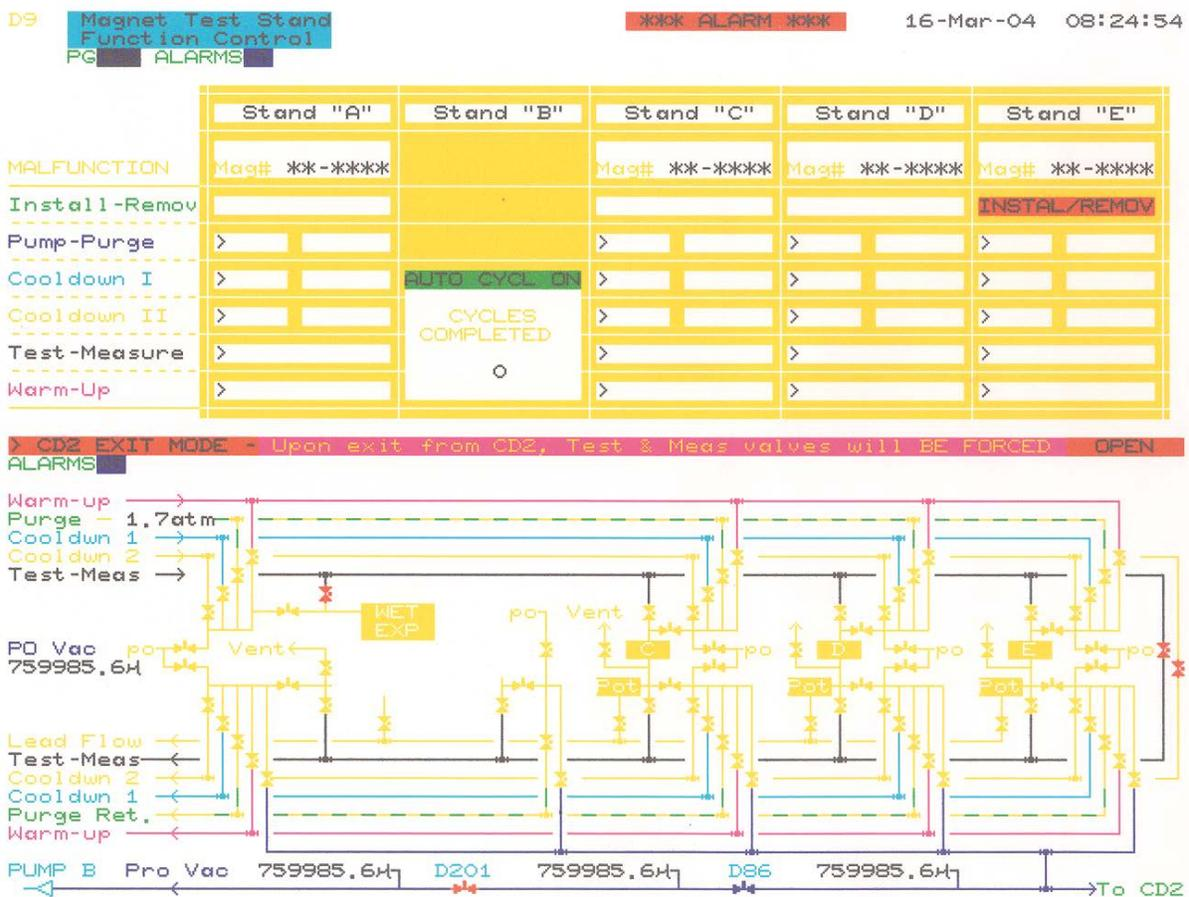

Figure 1. Display of control page D9 for MAGCOOL Test Stand
- 5.3 Display pages D9 Magnet Test Stand Function Control, as shown in Figure 1. Flow diagram of MAGCOOL Test Stand is given in the lower portion. MANUALS for control selection are given in the upper.